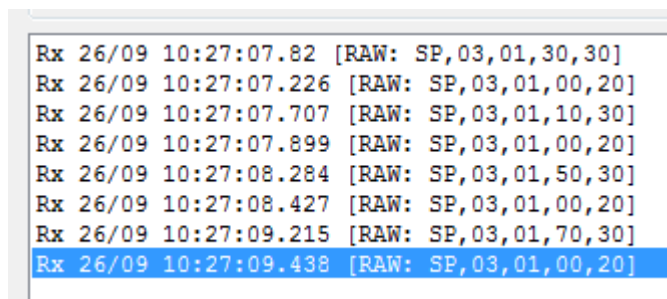

Figure 5.10 Row data log
3. Log Row data: When active the Tx or RX data bytes are shown as they are sent or received (Figure 5.10)